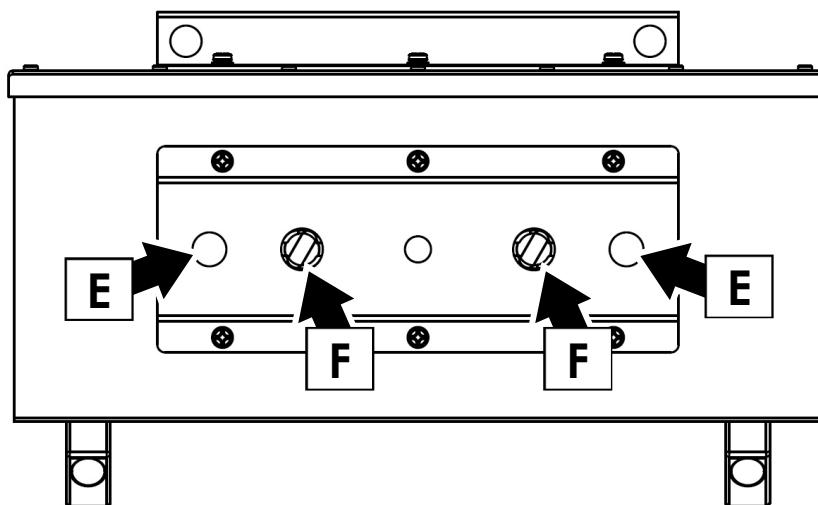

Figure 28. KNV PSU mounting options
See Figure 28**Error! Reference source not found.** on page 44. It is possible to install the PSU's mounting plate in position **A** or **B**. To reposition the mounting plate, remove the six mounting plate screws **C**, move the mounting plate 90° around to the other free side of the PSU, and reinstall it by fastening the six screws into the corresponding holes in that side of the PSU.
2. See Figure 28. Fasten the omega bracket to the mounting plate on the PSU by fastening the bracket's quarter-turn fasteners into holes **F**. Turn fasteners a full 90° clockwise to lock.
4. If there is a risk of injury or damage if the PSU falls, secure it with an approved safety cable passed through one of the holes (**E** in Figure 28) in the mounting plate or